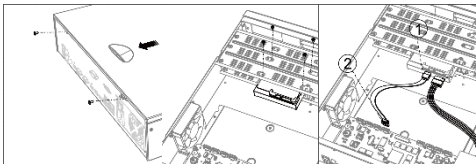

Figure 2-1 Remove
- Step 1 Unfasten screws on the back, and push the cover backwards to remove the cover. Refer to Figure 2-1.